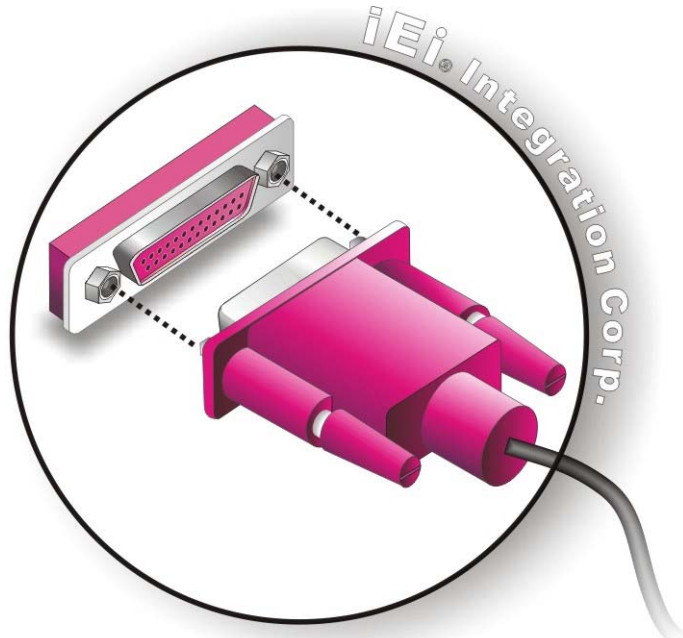

Figure 4-15: Parallel Device Connector
Step 2: Insert the DB-25 connector. Insert the DB-25 connector of a parallel device into the DB-25 connector on the external peripheral interface. See Figure 4-15.